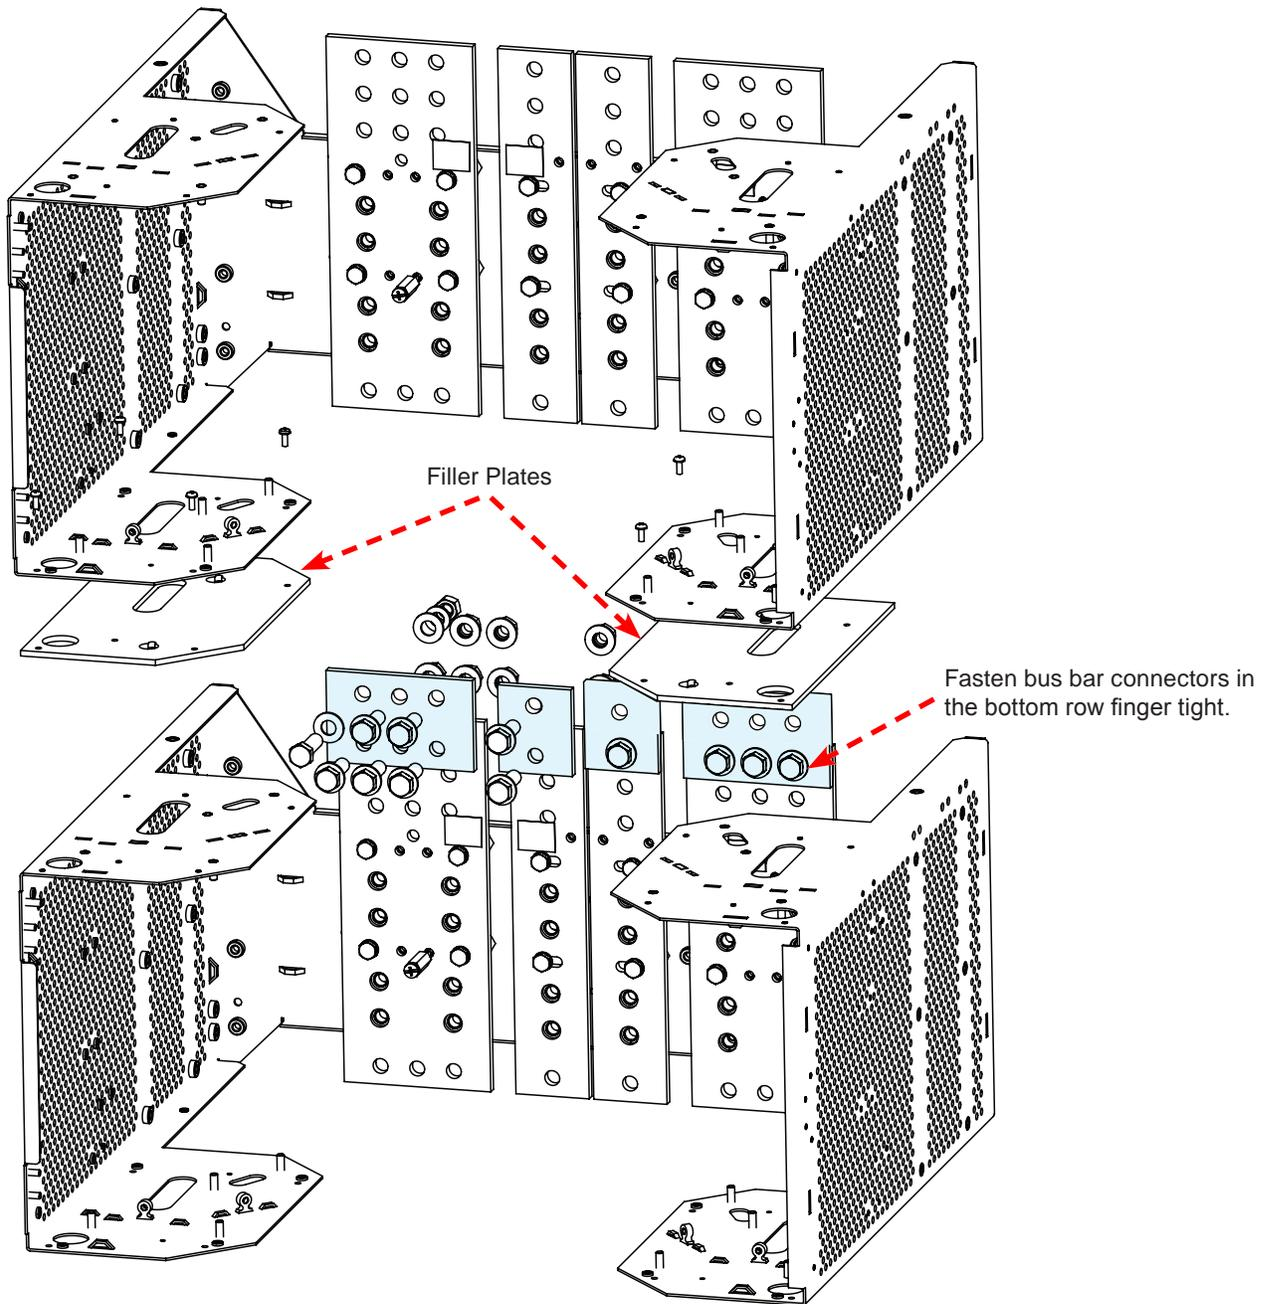

Figure 20 — Alignment of filler plates and bus bar connectors
- Use bolts in the **BOTTOM** row of the bus bar connectors (Figure 20) to attach them to the BDFB.
- Place the filler plates as shown in Figure 20.